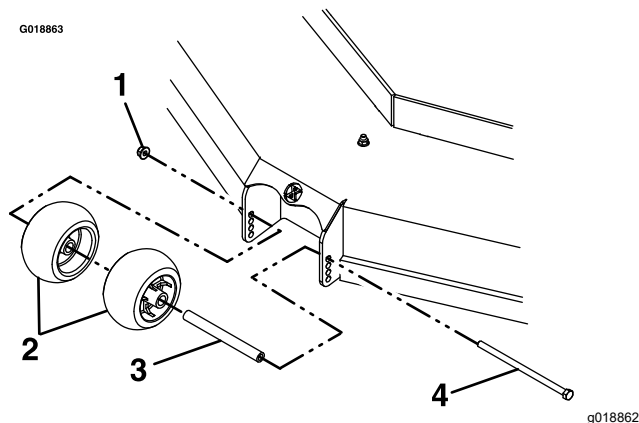

Figure 30
4. After adjusting the height of cut, adjust the anti-scalp rollers by removing the mounting hardware (Figure 30).
6. Torque the locknut (3/8 inch) to 41 to 47 N·m (30 to 35 ft-lb) as shown in Figure 30.